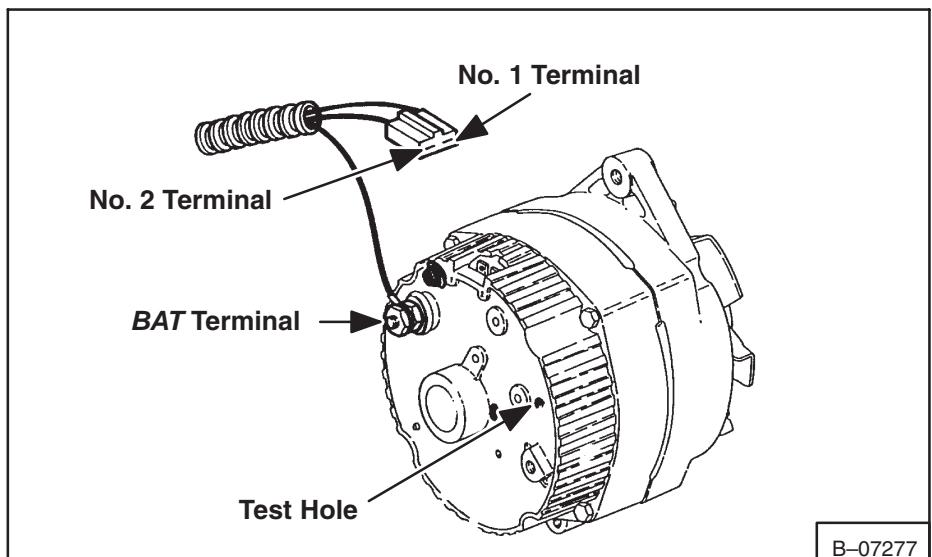

Fig. 6-9 Terminal Location For The Alternator
2. Connect the voltmeter between the ground and the No. 1 terminal (Fig. 6-9). Check for 12 volts.
3. Connect the voltmeter between the ground and the No. 2 terminal (Fig. 6-9). Check for 12 volts.
4. Connect the voltmeter between the ground and the BAT terminal (Fig. 6-9). Check for 12 volts.